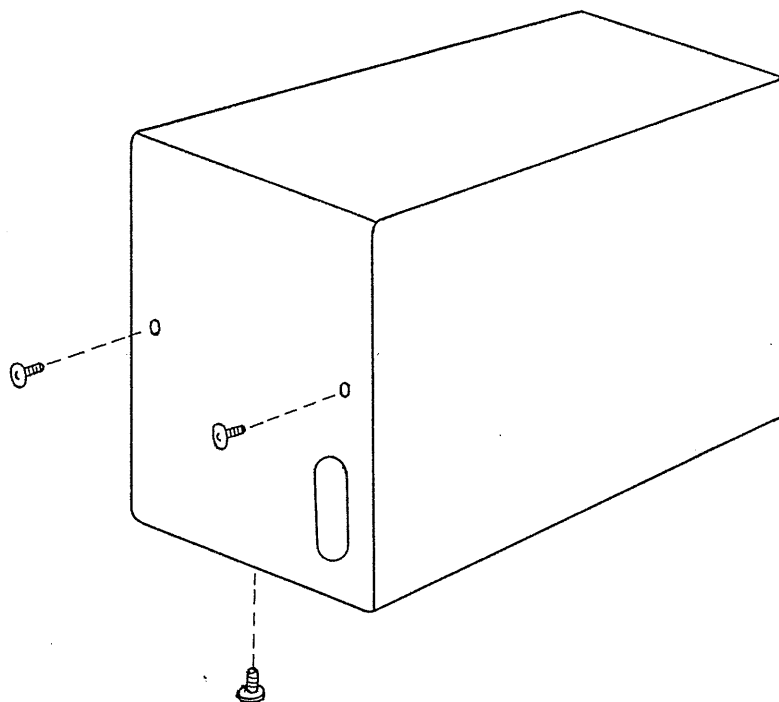

Fig. 9
5.3 Removal of case (See Fig. 9)